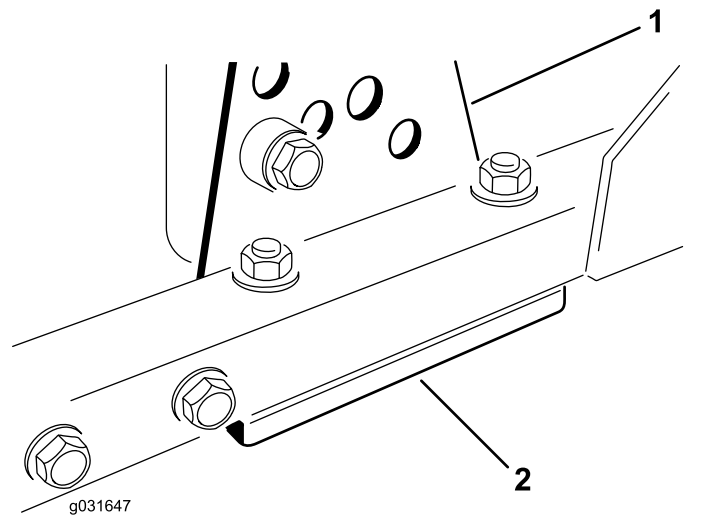

Figure 72
1. Remove the height-of-cut bracket (front, left, or right) from the cutting unit frame (Figure 72).
2. Adjust the 1.5 mm (0.06 inch) shims and/or 0.7 mm (0.03 inch) shim between the cutting unit frame and bracket to achieve the desired height of cut (Figure 72).
3. Install the height-of-cut bracket to the cutting unit frame with the remaining shims assembled below the height-of-cut bracket (Figure 72).